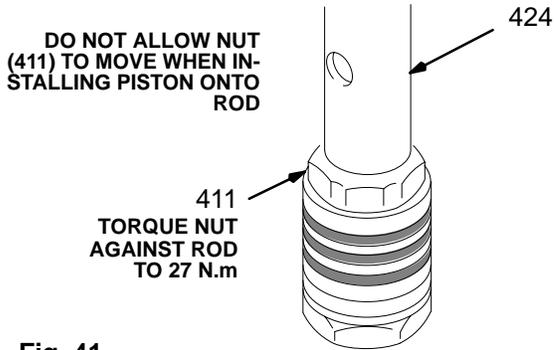

Fig. 41
6. Use a wrench to **CAREFULLY** tighten the nut (411) against the piston rod to 25 N.m. See Fig. 41. Use two wrenches to maintain the alignment mentioned in Step 4., page 33.